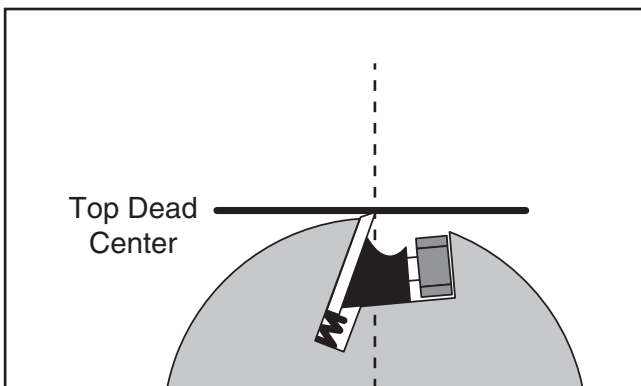

Figure 8. Cutterhead at TDC (Top Dead Center).
12. Use the straightedge to adjust the outfeed table even with the edge of the cutterhead knives at TDC (**Figures 8 & 9**). This is a routine procedure that should be covered in more detail in the owner's manual that came with your jointer.